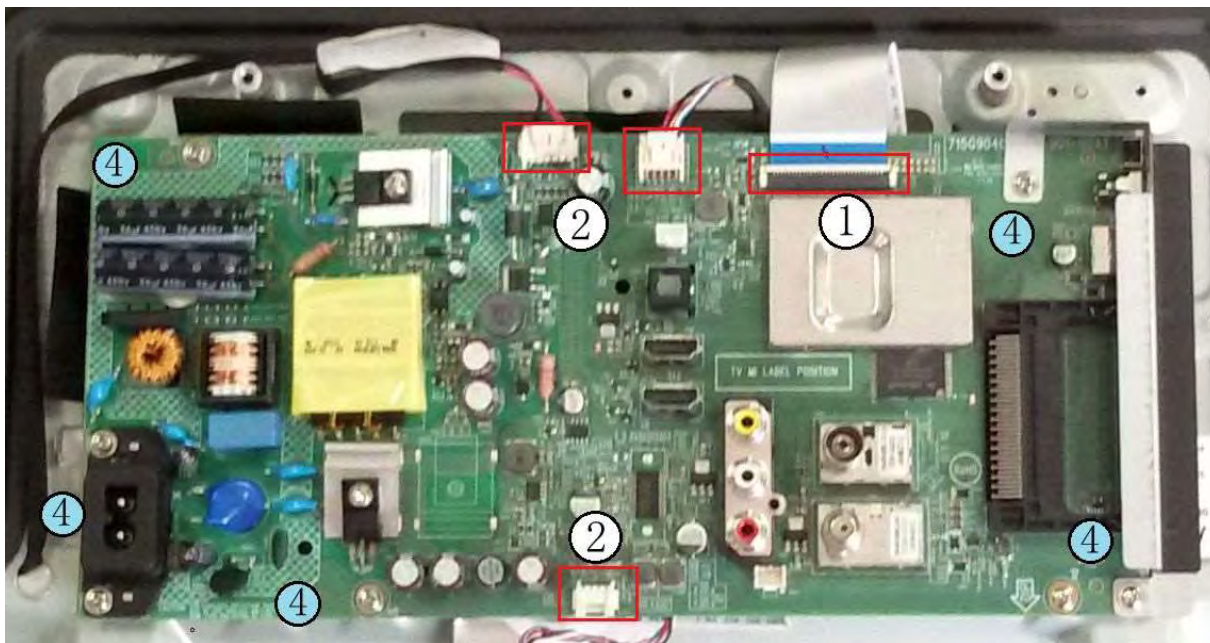

Figure 3-16 M+P BOARD (For 4112 Series)
4. Remove all the fixation screws from the M+P BOARD [4]. Refer to Figure 3-16 for details.